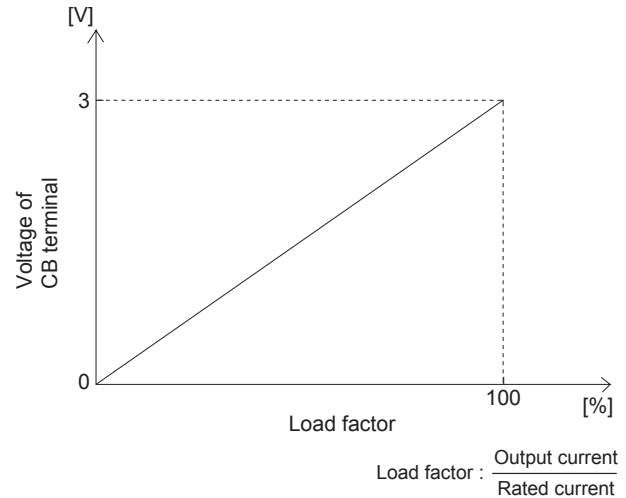

Fig.5.1 Load current conversion graph
■ Fig.5.1 shows the relationship between the voltage of the terminal CB and the output current.
The output current shown in Fig.5.1 is for reference only.